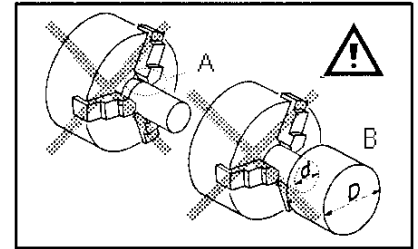

Fig 6
Avoid short clamping contact (A, Fig 6) or clamping on a minor part diameter (B).